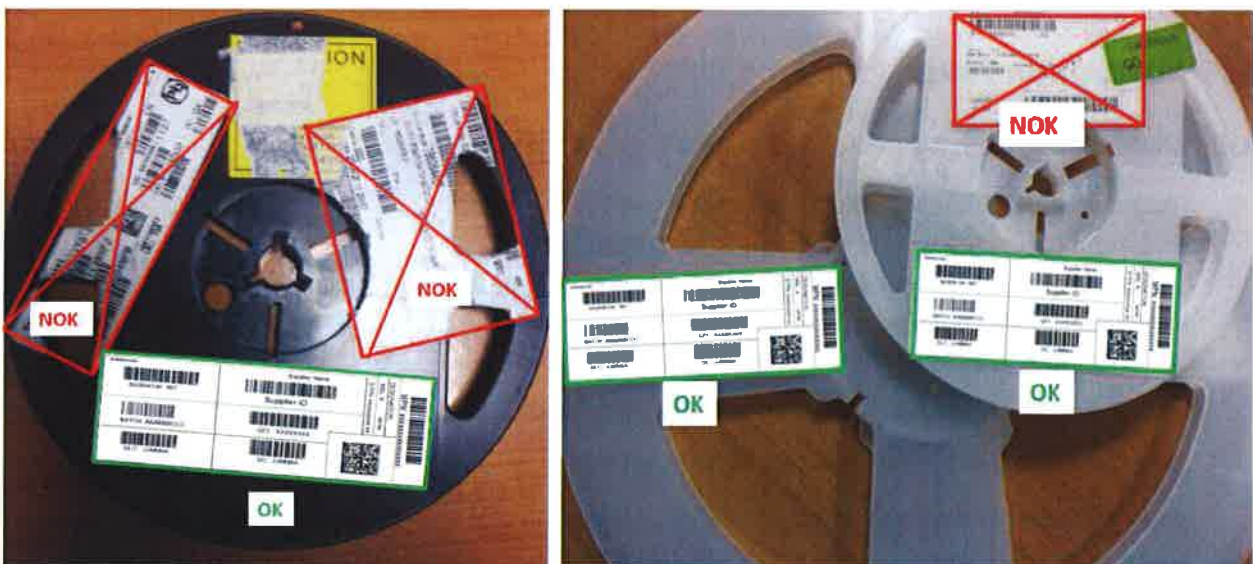

Figure 1 : Exemple of supplier Label pasting
- The labels on reels must be pasted on a full part without overflow. (example in Figure 1)